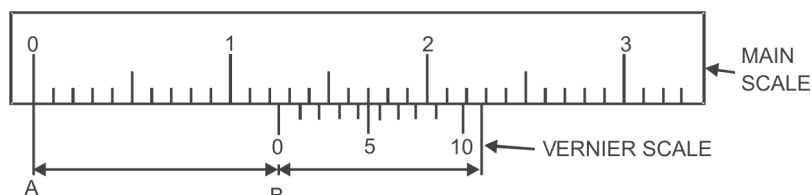
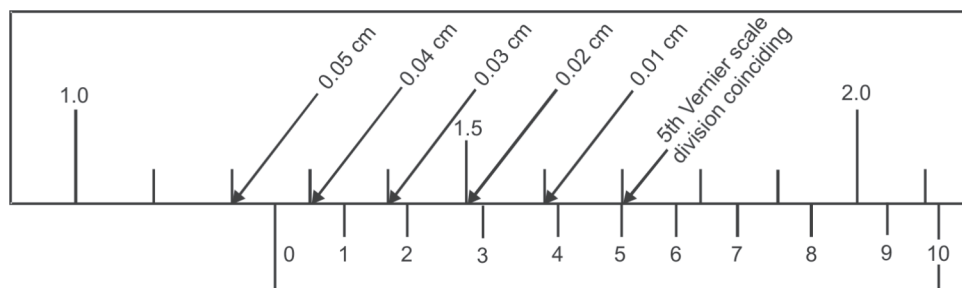

Fig. 3. Reading of a Vernier scale
Fig. 4. Reading of a vernier scale with 5th division coinciding
Let Vernier constant of the Vernier callipers is 0.01 cm. It has 10 divisions on vernier scale and value of one main scale division (1 M.S.D.) is 1 mm. We want to measure a length AB. The A is coinciding with zero of main scale and B is coinciding with zero of vernier scale (Fig. 3).
From Fig. 3 it is clear that length AB is between
1.2 cm and 1.3 cm as the zero of vernier scale is between 1.2 cm and 1.3 cm. The enlarged view of Fig. 3 is shown in Fig. 4.